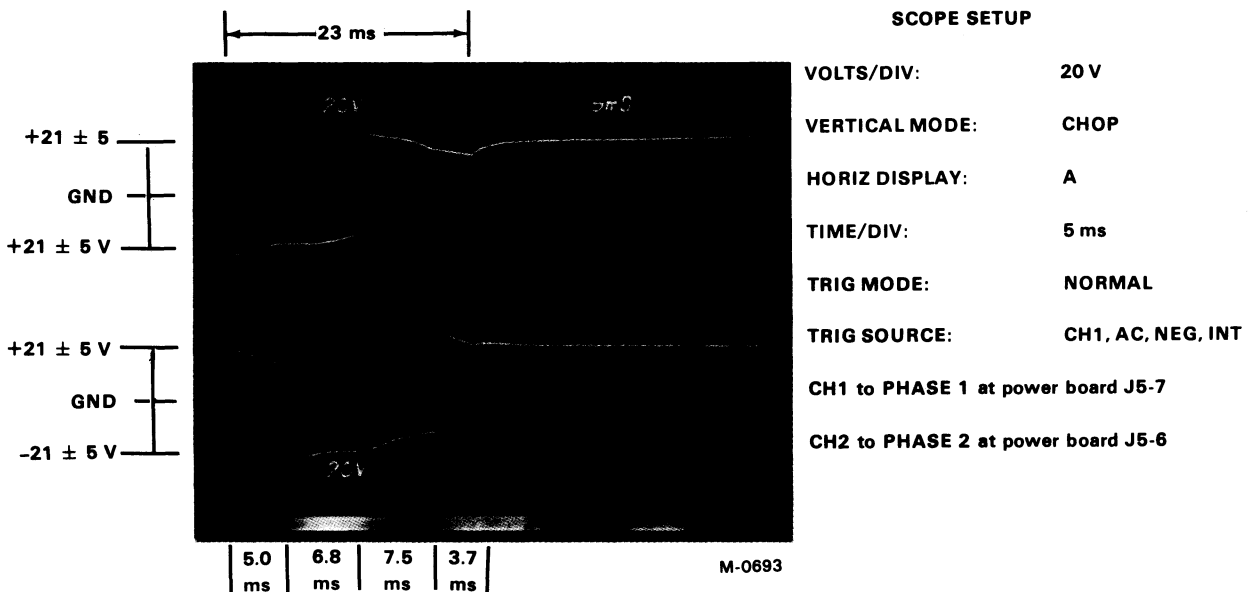

Figure 6-29 LF Motor Phase 1 and Phase 2 Waveforms
3. Check the waveforms (with keys depressed) at the test points shown in Figures 6-29 through 6-35.